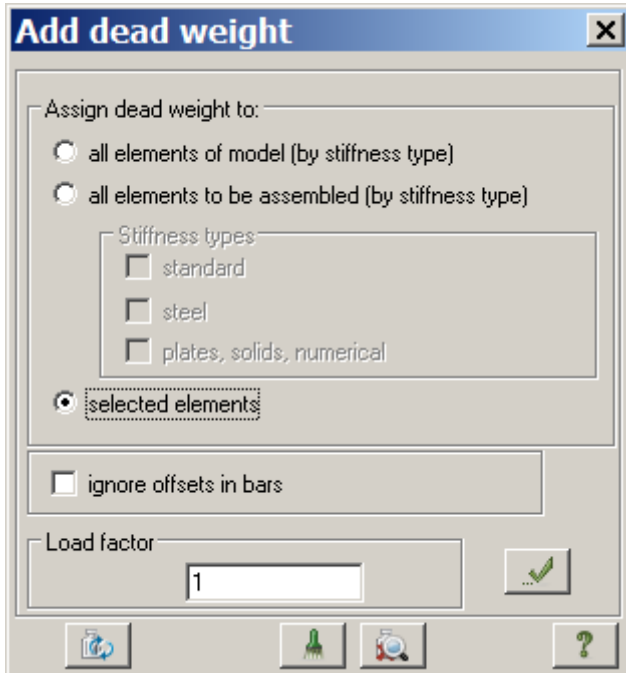

Figure 10.15 **Add dead weight** dialog box
- ⇒ In the **Add dead weight** dialog box (see Figure 10.15), click **Selected elements** and click **Apply**  (dead weight of elements is added according to the specified unit weight Ro).